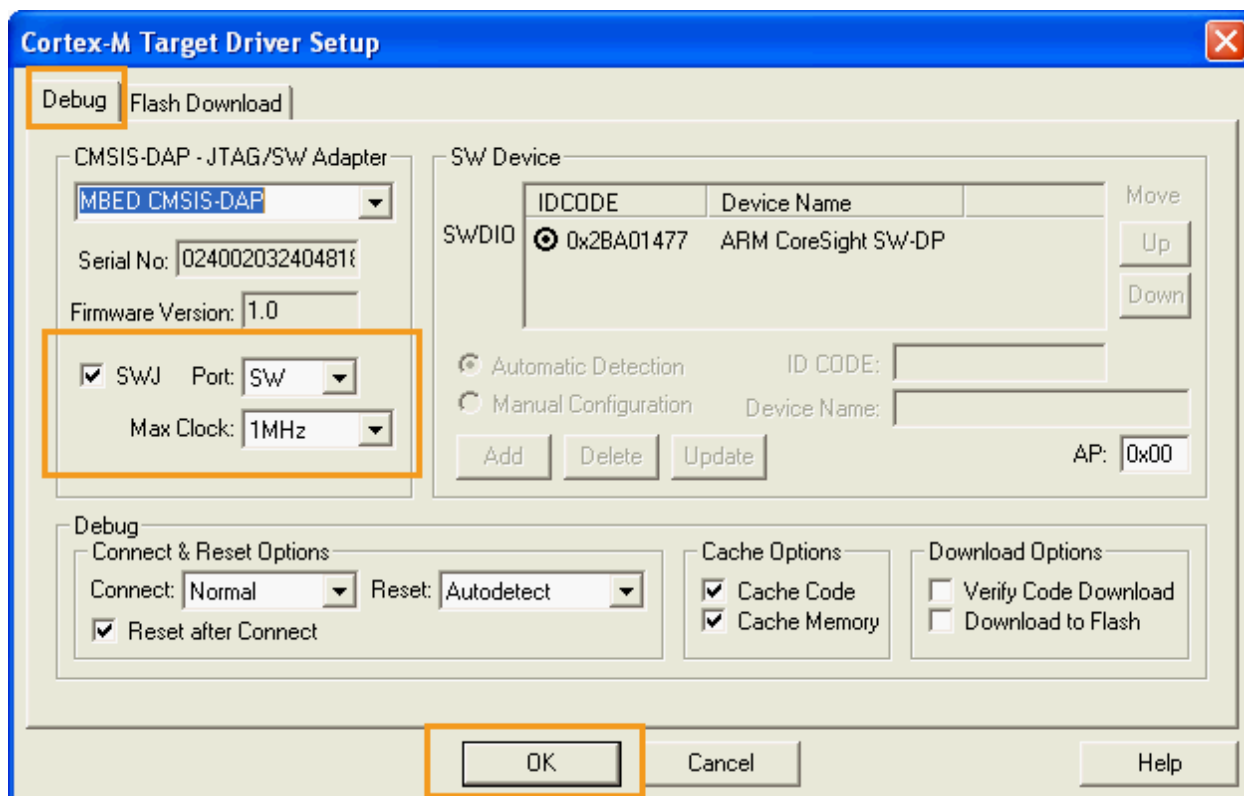

Figure 56. Setting the debug parameters on LinkIt 7687 HDK
- 7) Click **Settings** to switch to **Cortex-M Target Driver Setup**, then select **Debug** tab to set the configuration parameters and click **OK**, as shown in Figure 56.